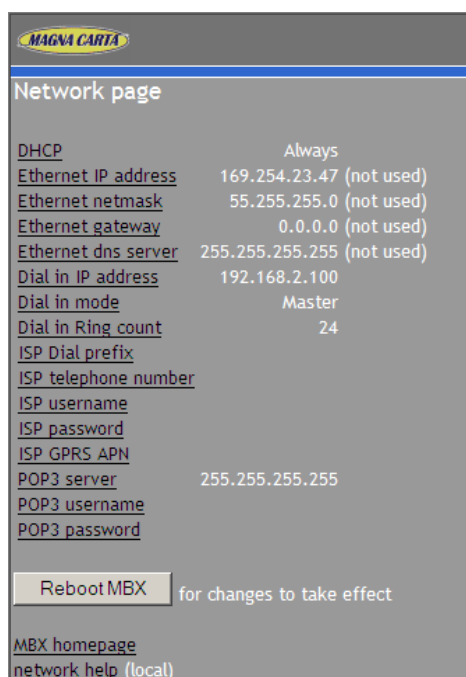

Figure 4-7 Network page of a Magnabox
- 1) config network for the parameters in Figure 4-7